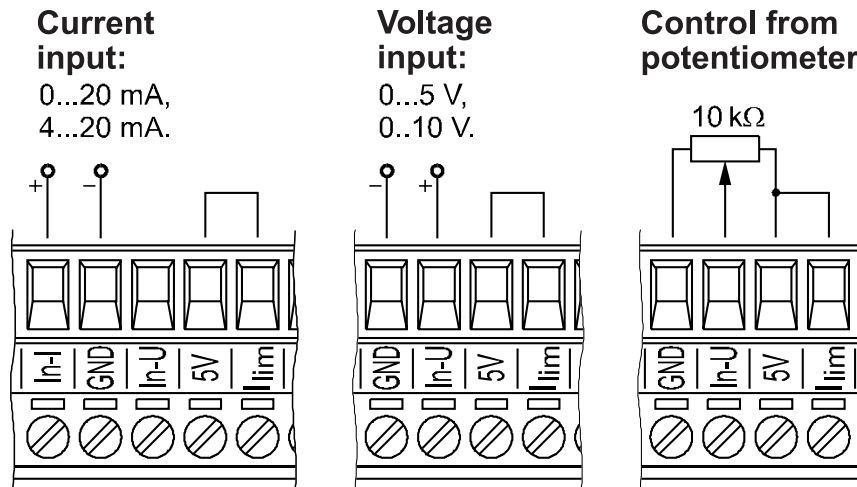

Fig. 5. Connection of control signals
In case of using the current limitation potentiometer on the power controller frontal plate, one must short-circuit 5 V and Limit terminals, fig. 5.
- g) **set the initial value of the triggering angle\***, according to p. 6.6. Increase the input control signal up to reach the current value  $I_r$  necessary to the motor start, next decrease gradually on the „ *$\alpha_{max}$* ” potentiometer, up to turn off, fig. 5. In this case, the control range depends on the set current  $I_r$  value to the rated load current  $I_n$  value.